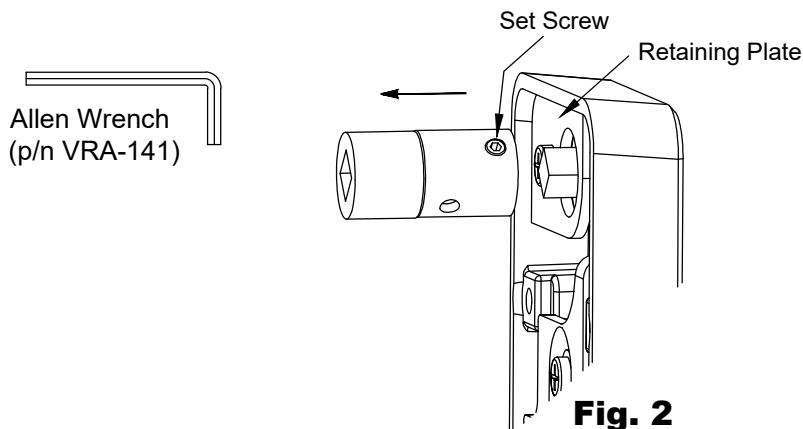

Fig. 2
- Remove the lever input extension from position A by first loosening its' setscrew. (See Fig 2)